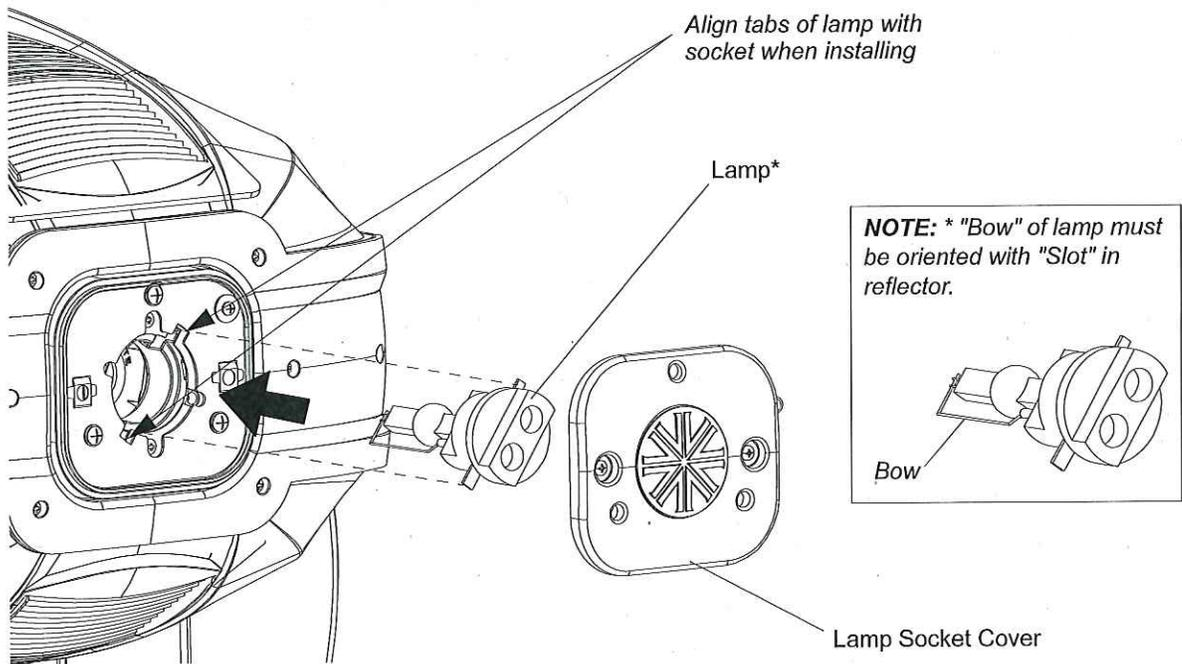

Figure A-2: Lamp Installation
- Step 5. To remove lamp, grasp lamp base by hand, twist lamp counter-clockwise until lamp's tabs align with slots in lamp socket (see Figure A-2 on page 77 for more information), and remove lamp by pulling it straight out of socket.
- Step 7. As shown in Figure A-2, align replacement lamp tabs with lamp socket.